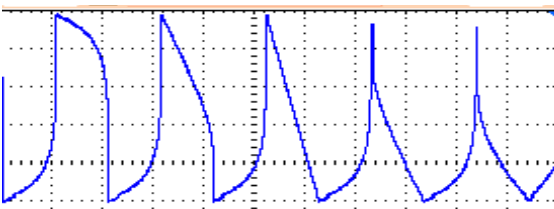

Figure 8a: Curves 1-5
The envelope shapes available in the PEG are formed by combinations of exponential, linear, and logarithmic waveforms. In between each fully expo/lin/log waveform, there are three interpolated waveforms formed from weighted combinations of each (e.g. 25% log, 75% linear). The waveforms can be symmetrical (e.g. linear rise & linear fall), or asymmetrical (e.g. exp rise & log fall). See *Figures 8a-8d*.
- First 4 curves are asymmetrical with exponential attacks and different decays (log->expo) *Figure 8a*